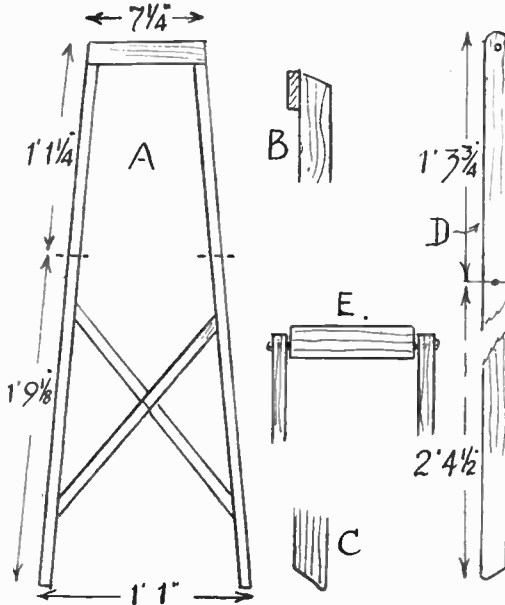

Fig. 1—Shape and dimension of legs, with details
The folding leg parts are shown grouped together in Fig. 1. The inner legs are made up first, and are drawn at (A). Cut these from red deal if possible, to the length given. Cut the top cross-bar to length and fix with screws. It will be seen that this pair of legs splay outwards, so space them apart at the bottom to outside measurement of 1ft. 1in. and keep them so fixed until the diagonal braces are fitted, then free them. A spare strip of wood, nailed across them at the bottom will fix them temporarily. This should be done before the top bar is screwed across.